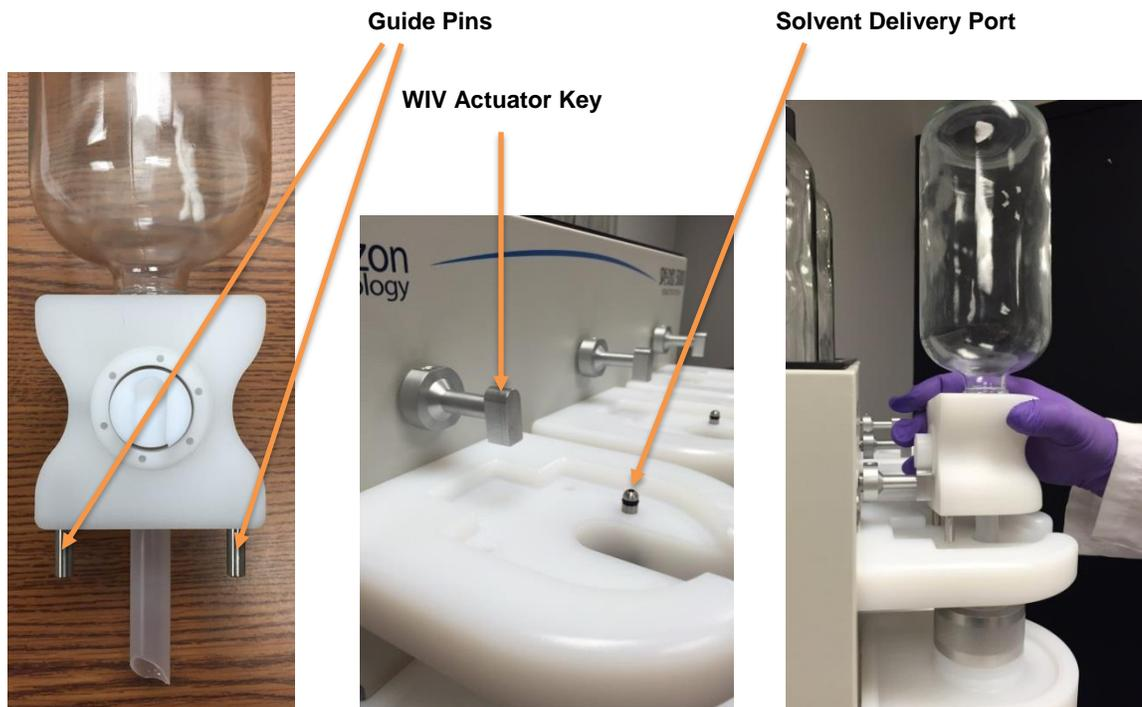

Figure 6-13. The WIV, Platform, and Loading the WIV
- Step 7:** Position the WIV over the WIV Platform, and while aligning the Actuator Key to the key on the backside of the WIV, gently, but firmly press the WIV into position. See the photos in Figure 6-13.